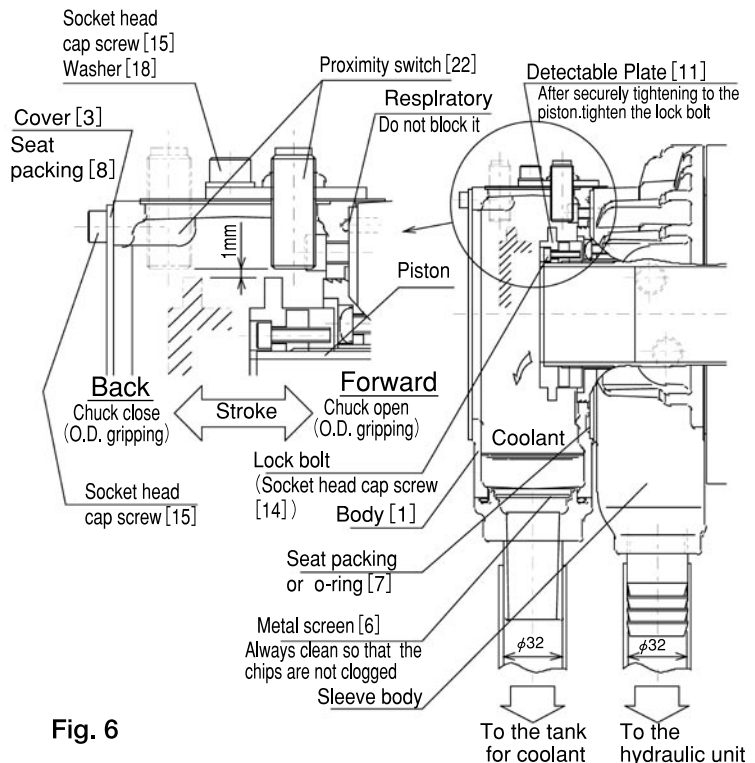
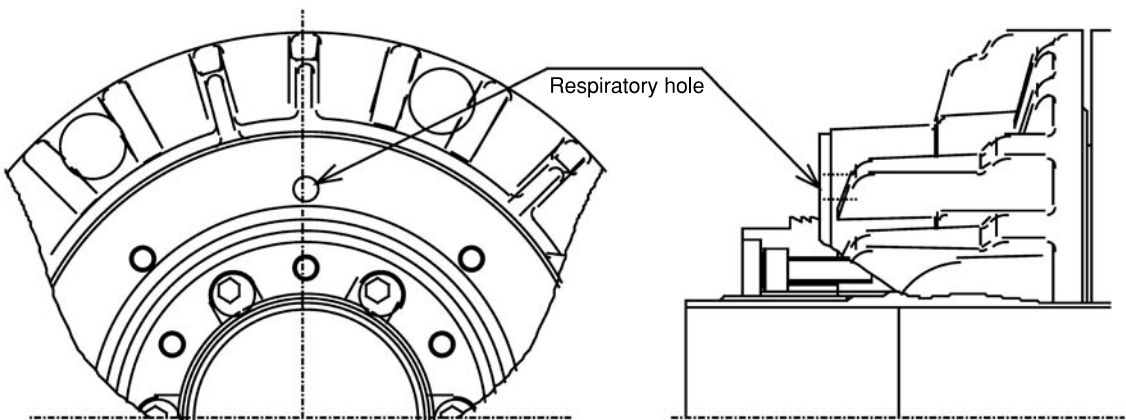

Fig. 6
Fig. 7
(Inside diameter $\phi 32$) (Fig. 6)
Read following instruction when you adjust the proximity switch. (Fig.6)
- In case you use a coolant collector manufactured by the company other than Kitagawa Iron Works, do not block the respiratory hole. (Fig. 6 , Fig. 7)
Always clean the punching metal so that the coolant does not stagnate inside the coolant collector. Be sure the chips are not clogged. (Fig. 6)